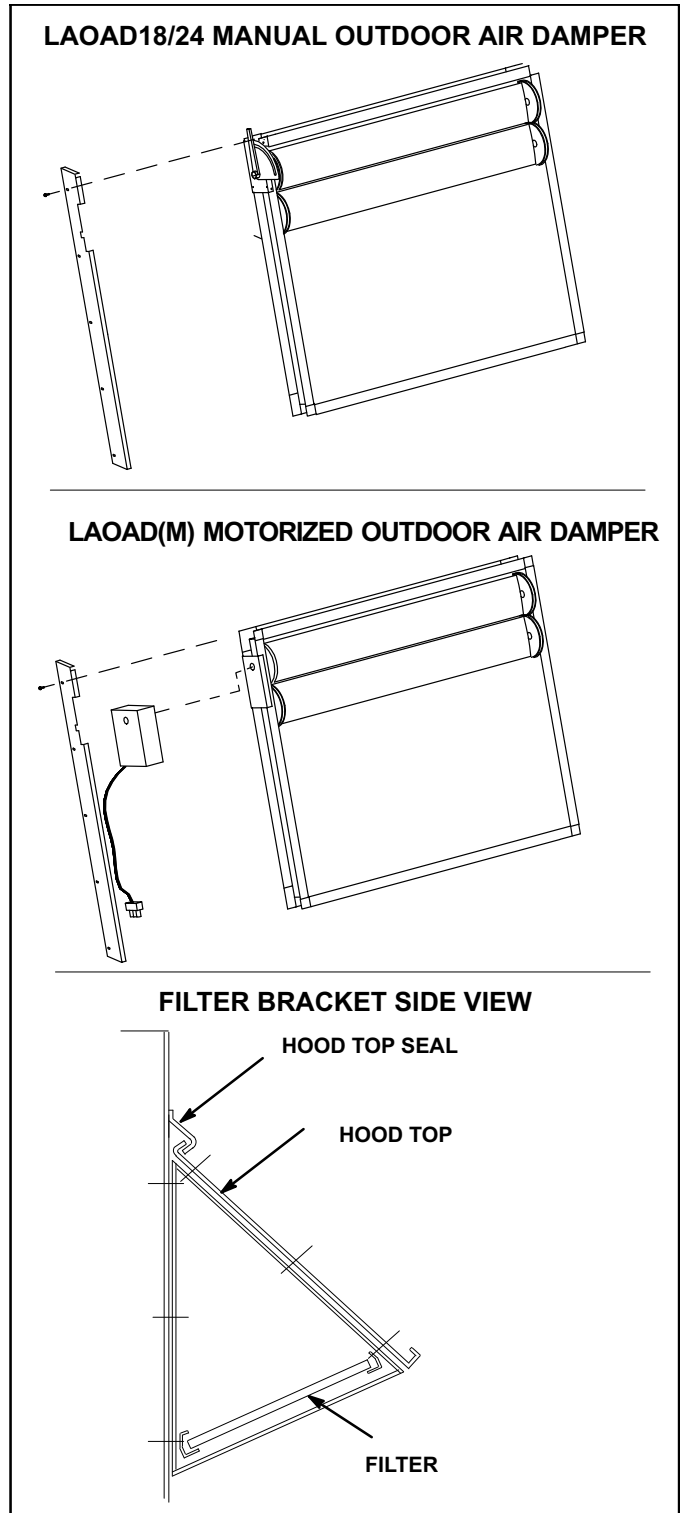

FIGURE 33
**C-LAOAD(M) Outdoor Air Dampers (all units)**
LAOAD(M)10/15 used on LGC090S/150S and LAOAD(M)18/24 (figure 33) used on LGC156H/300S units consists of a set of dampers which may be manually or motor (M) operated to allow up to 25 percent outside air into the system at all times (see figure 33). Either air damper can be installed in LGC units. Washable filter supplied with the outdoor air dampers can be cleaned with water and a mild detergent. It should be sprayed with Filter Handicoater when dry prior to reinstallation. Filter Handicoater is R.P. Products coating no. 418 and is available as Lennox Part No. P-8-5069.